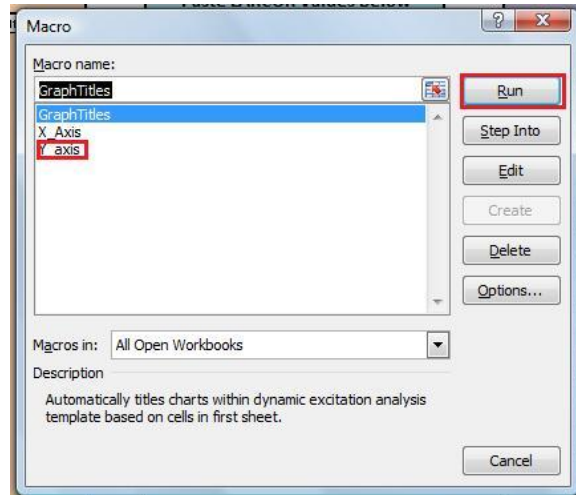

Figure 44: Dynamic Excitation Template Macro Window with Annotated Selections
17. Choose the macro **Y_axis** and click **Run**, shown in Figure 44.